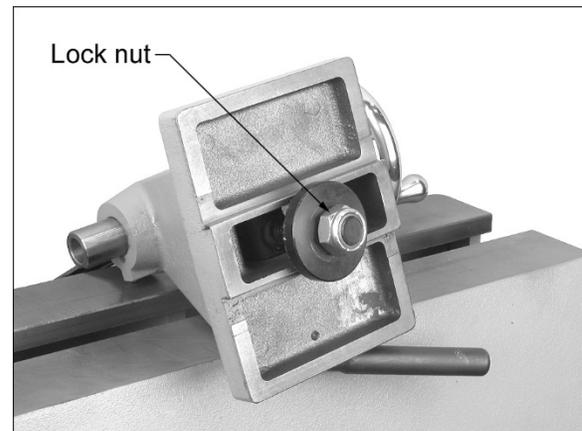

Figure 8-3: cam adjustment
If headstock, tailstock or tool rest base does not properly tighten down against bed when locking handle is tightened, adjust as follows. Figure 8-3 uses tailstock as example.
2. Turn tailstock on its side and tighten lock nut with a wrench. See Figure 8-3.